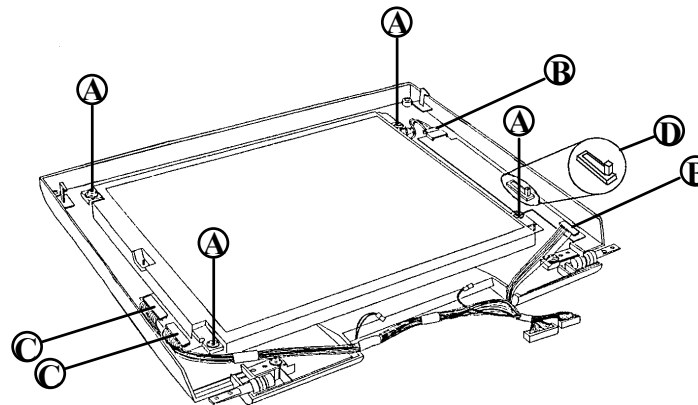

FIGURE 6-3
- (a). REMOVE THE FOUR SCREWS (FIGURE 6-3 A). SECURING THE LCD TO THE LCD HOUSING.
- (b). UNPLUG TWO CONNECTORS (FIGURE 6-3 B). FROM THE BACKLIGHT (D/A) BOARD. LIFT THE LCD FREE.
- (c). UNPLUG THE TWO CONNECTORS FROM LCD (FIGURE 6-3 C).
NOTE: WHEN REPLACING THE SLIDER, MAKE SURE THE SLIDER CATCHES THE STICK ON THE BACKLIGHT BOARD. FOR EASY ALIGNMENT, FIRST MOVE THE STICK (FIGURE 6-3 D) ON THE BACKLIGHT BOARD TO ONE END. THEN WHEN YOU REPLACE THE SLIDER, ORIENT THE SLIDER BY HOLDING ITS THICKER EDGE TOWARD THE LEFT AND INSERT THE CORRESPONDING HOLE ON THE SLIDER INTO THE STICK.